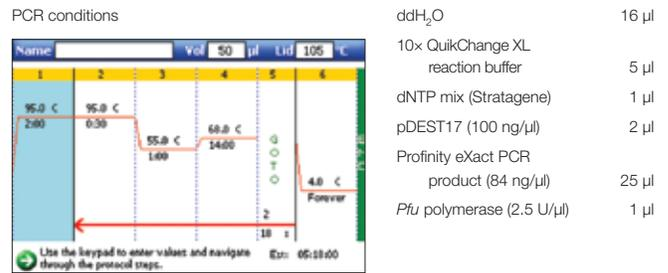

Fig. 4. Mutagenesis reaction to create pDEST17 vector modification.
3. Modify the pDEST17 vector using the QuikChange XL site-directed mutagenesis kit with the conditions illustrated in Figure 4.